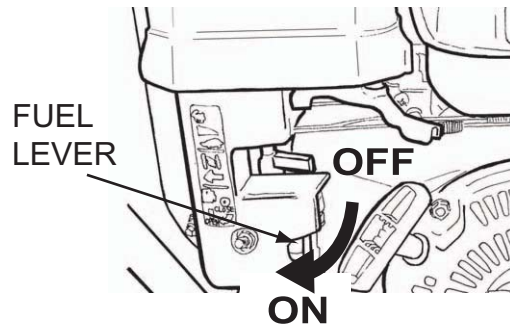

Figure 6. Fuel Valve Lever
9. Place the fuel valve lever (Figure 6) in the "ON" position.
3. Place the fuel valve lever (Figure 6) in the "**OFF**" position.